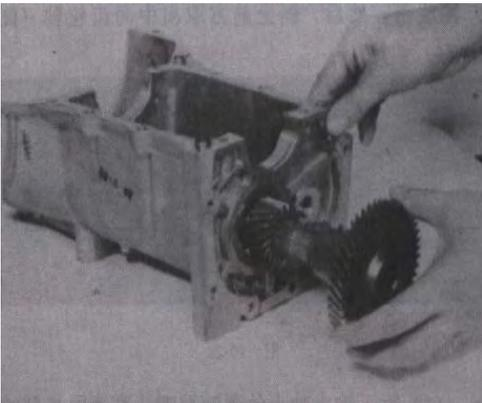

Fig10-21
(3) Remove countershaft 5th gear and counter-shaft reverse gear. (FIG.10-21)